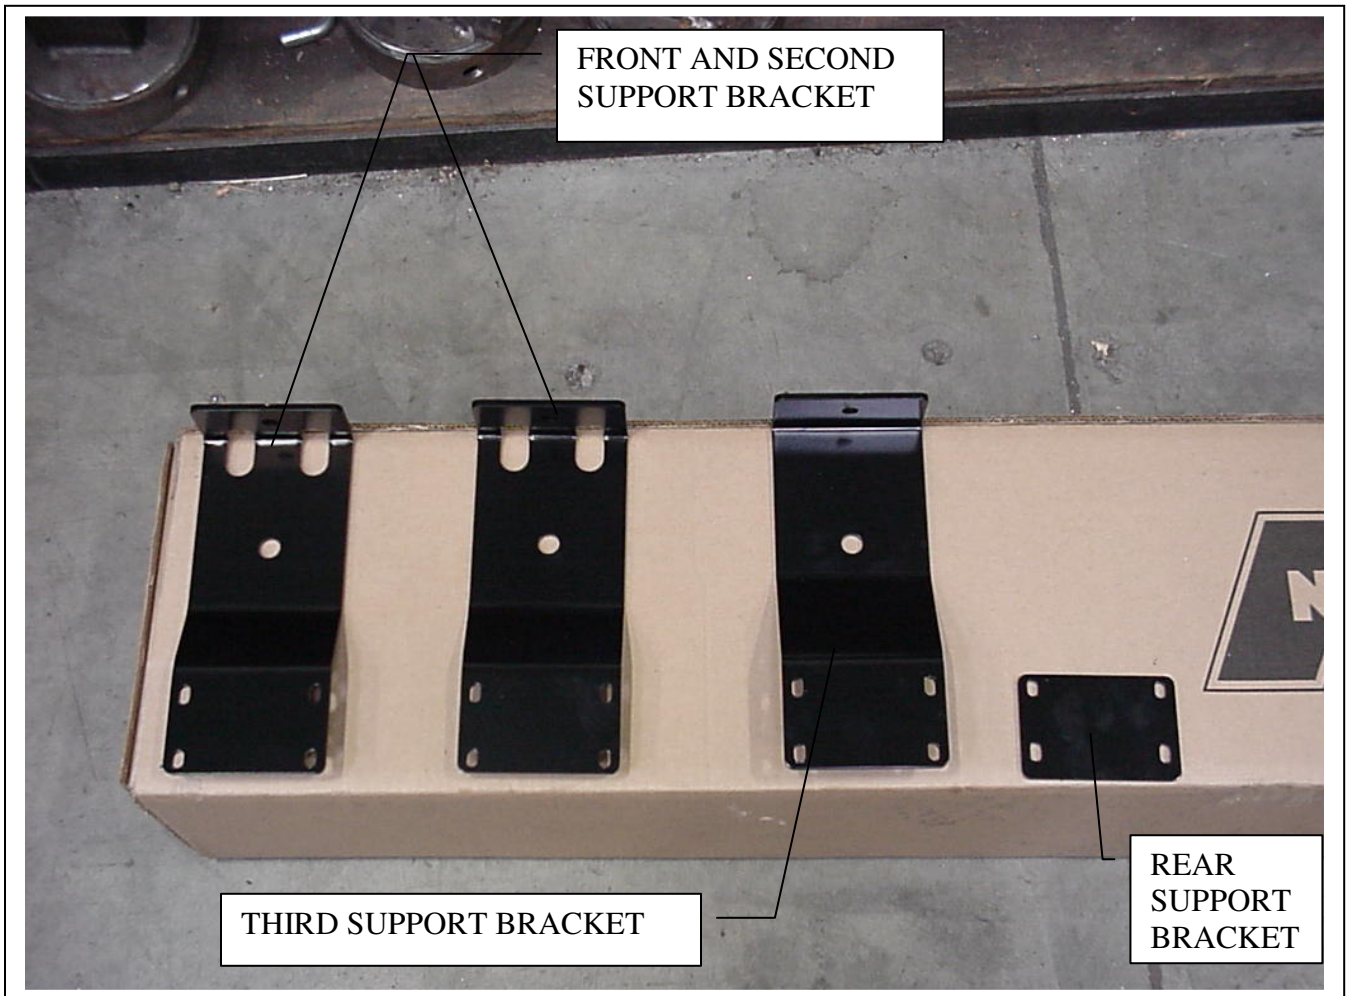

Figure 8, Support Bracket identification.
5. With all 8 mounting bolts torqued, install the support brackets to the rock slider mounts and the sub floor of the vehicle. Use Figure 8 to determine the location of the brackets. On the third mount, a plug will need to be removed from the floor before install the support bracket. Install the appropriate brackets to the mounts on the rock slider using the ¼" hardware. Install a bolt and flat washer through the support bracket and then the rock slider mount. Tighten a lock nut onto each bolt. Torque to the previously stated torque spec. See Figure 8 and 9.